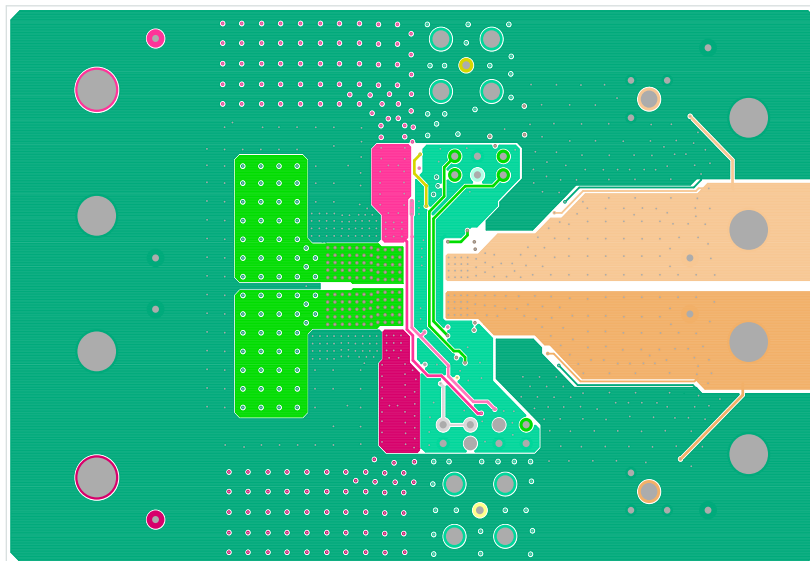

FIGURE 5. LAYER 2
2. Phase 1 and Phase 2 pads are switching nodes that generate switching noise. Keep these pads under the module. For noise-sensitive applications, it is recommended to keep phase pads only on the top and inner layers of the PCB; do not place phase pads exposed to the outside on the bottom layer of the PCB. To improve the thermal performance, the phase pads can be extended in the inner layer, as shown in Phase 1 and Phase 2 pads on layer 2 (Figure 5) for this dual 20A evaluation board. Make sure that layer 1 and layer 3 have the GND layers to cover the extended areas of phase pads at layer 2 to avoid noise coupling.